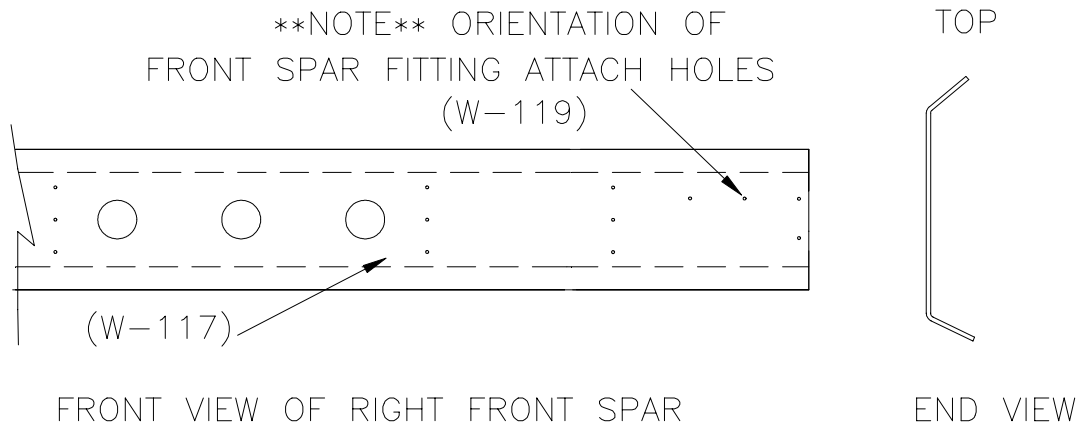

Figure 8.11.1
- 2) Lay out a Front Spar (W-117) as in Figure 8.11.1.